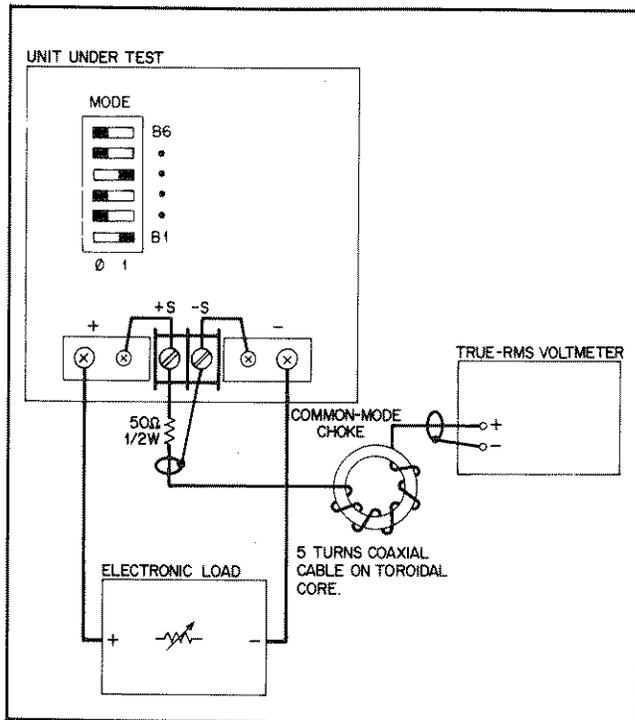

Figure 5-3. RMS Measurement Test Setup, CV PARD
Test points: See Figure 5-3
- Connect the test equipment as shown in Figure 5-3. Operate the electronic load in constant resistance mode (Amps/Volt) and set resistance to maximum.
Use common mode choke as in Figure 5-3 to reduce ground loop currents from interfering with measurement. Reduce noise pickup on the test leads by using 50Ω coaxial cable, and wind it 5 turns through the magnetic core to form the common-mode choke.